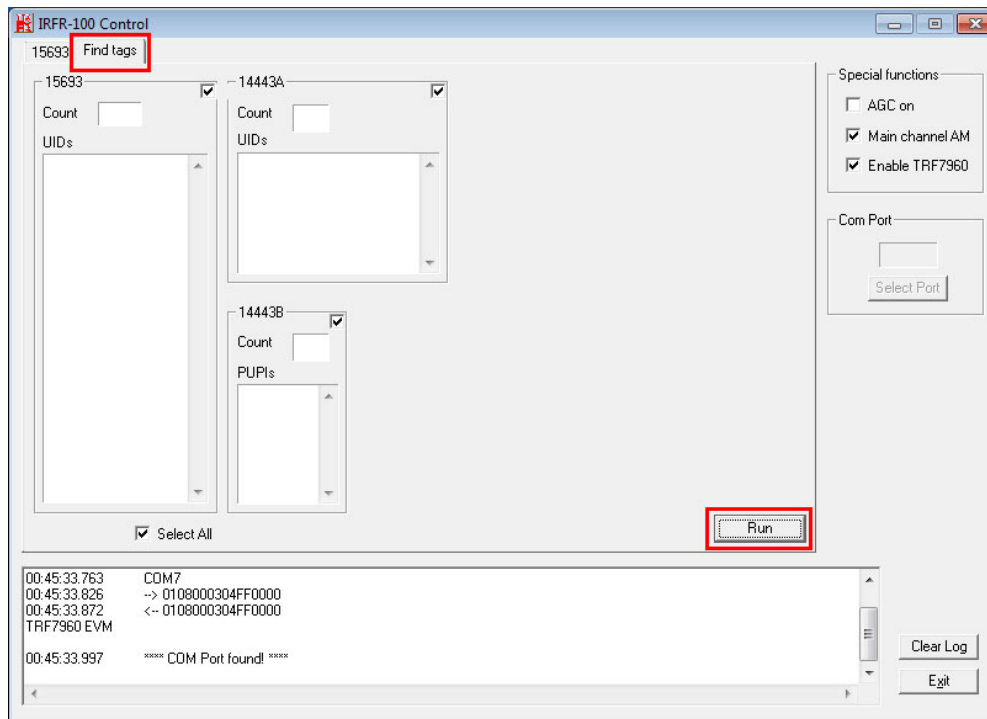

Figure 3-22: IRFR – Find Tags
Step 5: Select the **Find tags** tab and click the **Run** button to enable the RFID reader (**Figure 3-22**).